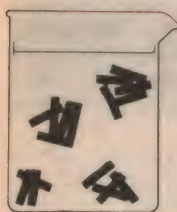

Fig. 9
Adequate particle orientation starts with the mix (Fig. 9 above) but involves application, the use of a magnetic field and the choice of orientable particles.
1. Proper dispersion of oxide in the binder system (Fig. 9).